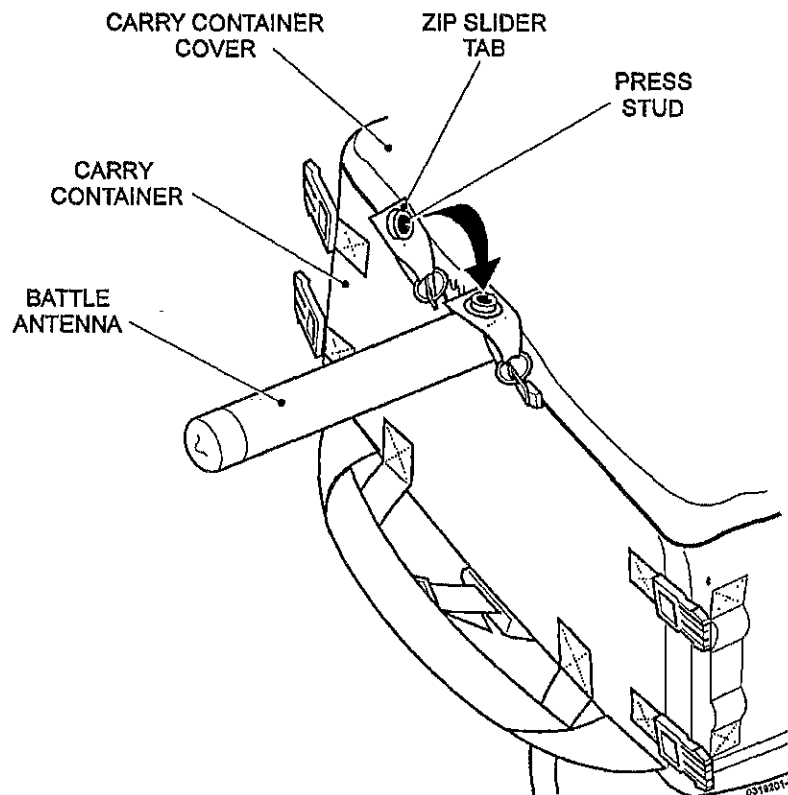

Fig 13 Manpack station - securing the carry container cover with operational battle antenna deployed
- (1) When deployed for use, the antenna must be in an approximately upright position.
- (2) Where the carry container cover is to be closed, the antenna must be aligned such that it does not prevent closure.
- (3) Where the station is to be operated with the cover closed, the antenna may be aligned such that it protrudes from the container in contact with the cover retaining zipper (Fig 13).
21 Close the cover and secure using the zip fasteners. Where the battle antenna is deployed such that it protrudes from the container in contact with the cover retaining zipper, bring the two zip sliders up to the antenna, pass the slider tabs over the antenna and secure together (Fig 13).